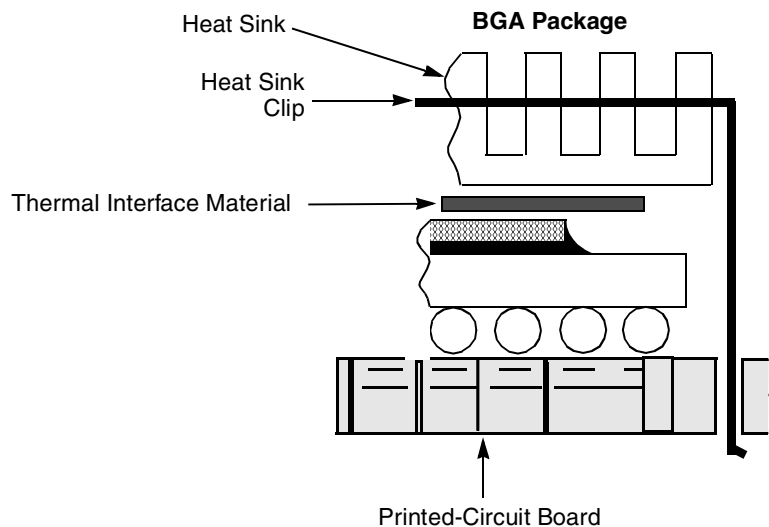
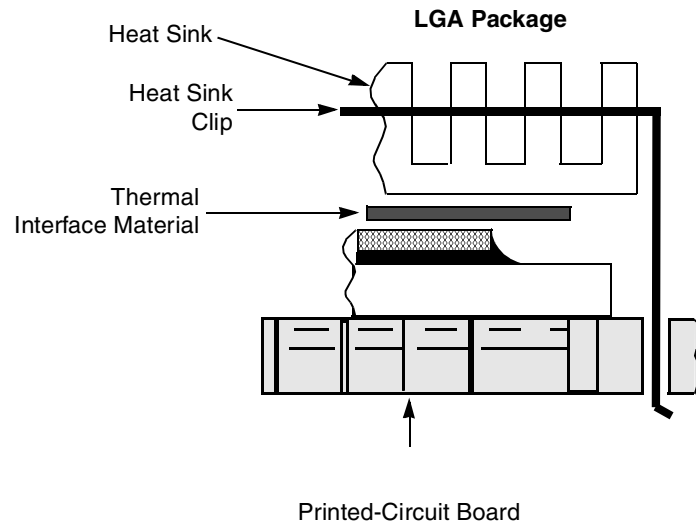

Figure 26. BGA Package Exploded Cross-Sectional View with Heat Sink Clip to PCB Option
Figure 27. LGA Package Exploded Cross-Sectional View with Heat Sink Clip to PCB Option
This section provides thermal management information for the MPC7410 for air-cooled applications. Proper thermal control design is primarily dependent on the system-level design—the heat sink, airflow, and thermal interface material. To reduce the die-junction temperature, heat sinks may be attached to the package by several methods such as spring clip to holes in the printed circuit board or with screws and springs to the printed circuit board; see Figure 26 for the BGA package and Figure 27 for the LGA package. This spring force should not exceed 5.5 pounds of force. Note that care should be taken to avoid focused forces being applied to die corners and/or edges when mounting heat sinks.
Heat sinks are attached to the package by means of a spring clip to holes in the printed-circuit board (see Figure 26). This spring force should not exceed 5.5 pounds of force. Therefore, the synthetic grease offers the best thermal performance, considering the low interface pressure. Of course, the selection of any thermal interface material depends on many factors—thermal performance requirements, manufacturability, service temperature, dielectric properties, cost, and so on.
| 6 | 8/14/2007 | <p>Updated Table 4 thermal information:</p> <ul style="list-style-type: none"> • Deleted rows on single-layer (1s) boards. • CBGA package $R_{\theta JMA}$ for natural convection for four layer boards changed from 17 to 18 °C/W. • HCTE package $R_{\theta JMA}$ for natural convection for four layer boards changed from 22 to 20 °C/W. • HCTE package $R_{\theta JMA}$ for 200 ft./min airflow for four layer boards changed from 19 to 16 °C/W with airflow rate specification changed from 200 ft./min to 1 m/sec. • HCTE package $R_{\theta JMA}$ for 400 ft./min airflow for four layer boards changed from 18 to 15 °C/W with airflow rate specification changed from 400 ft./min to 2 m/sec. • CBGA package $R_{\theta JB}$ changed from 8 to 9°C/W. • HCTE package $R_{\theta JB}$ changed from 14 to 11°C/W. • Table 4 Notes 2 - 4 have been revised and updated; Note 5 is no longer used. Notes on table rows have been renumbered. <p>Updated Figure 26 removing optional heat sink clip to package.</p> <p>Removed references in document to adhesive attached thermal solutions.</p> <p>Updated thermal solution vendor information in Section 8.8.</p> <p>Added HCTE_CBGA Lead Free C5 Spheres (VU) packaging information to document:</p> <ul style="list-style-type: none"> • Added Section 7.2, "Package Parameters for the MPC7410, 360 HCTE_CBGA (Lead Free C5 Spheres). • Added Figure 18 for HCTE_CBGA Lead Free C5 Spheres package, similar to Figure 17 but with differences in dimensions A, A1, and b in the figure's dimension table. • Added HCTE_CBGA Lead Free C5 Spheres (VU) packaging information in Table 17 and Table 19. • Changed part marking example in Figure 31 to an HCTE_CBGA device. |